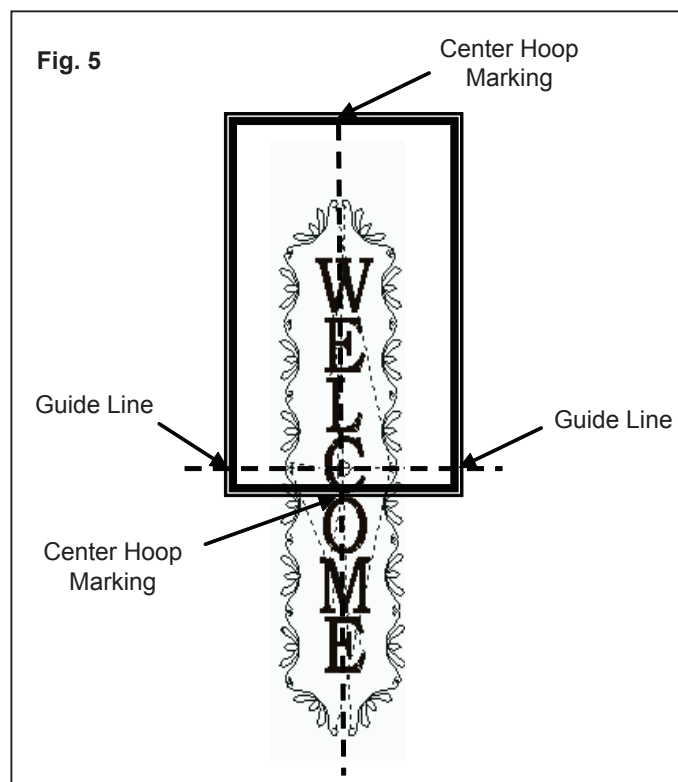

**Fig. 3**
- The next screen prompts you to input the first of three alignment points, A, B, and C. These alignment points will inform the machine exactly where the crosslines are positioned in the hoop. It is extremely important that the points are accurately input on the cross lines. The machine is awaiting the input of point A. See figure 3.